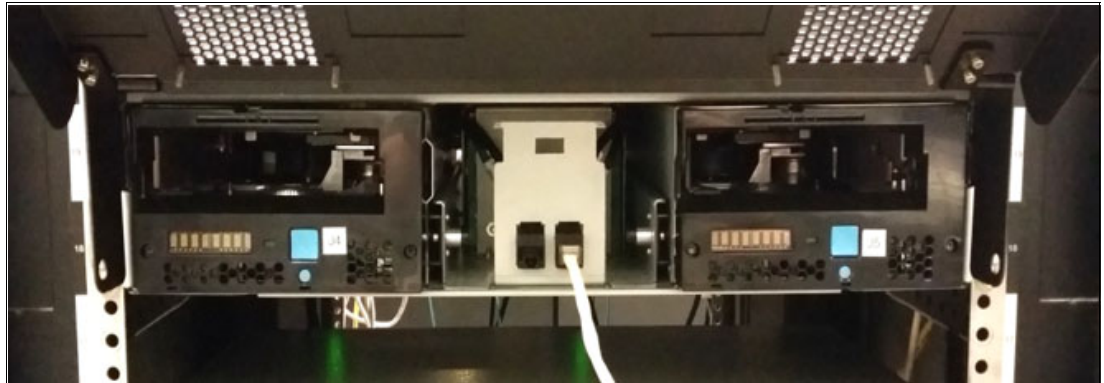

Figure 3-8 3592 Rack Mount Kit for EH7, EH8, 55E, or 55F drives
The 3592 rack mount for 3592 EH7 or EH8 drives is shown in Figure 3-8. It is a 3-rack unit (RU) feature that mounts up to two EH7 or EH8 drives.